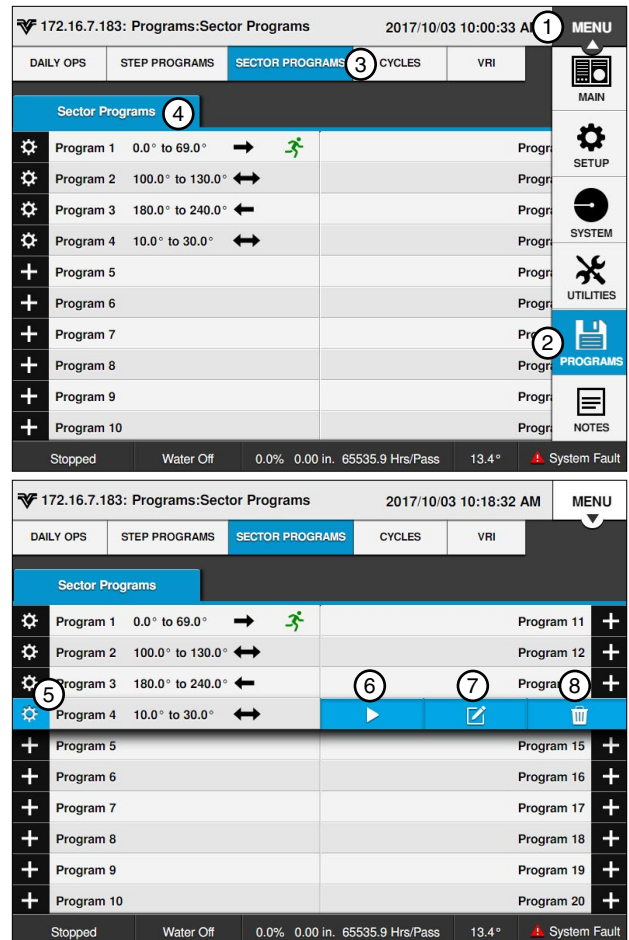

Figure 143-1 1. Menu 5. Settings
1. Push **Menu**, **Programs**, and **Sector Programs** to view the Sector Programs screen. Refer to Figure 143-1.